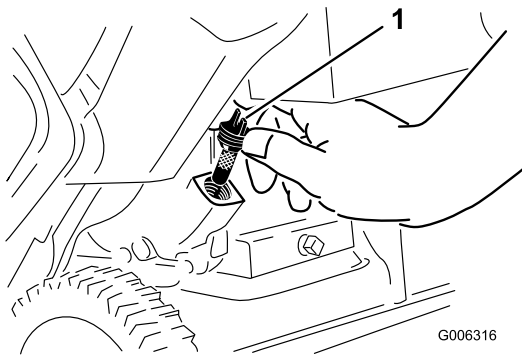

Figure 29
- Clean around the oil fill cap (Figure 29).
7. Unscrew the oil fill cap and remove it (Figure 29).